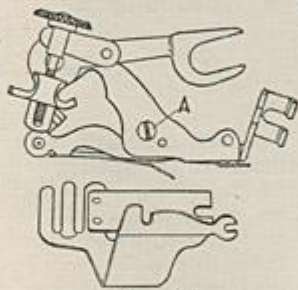
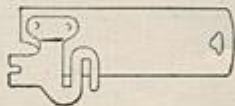

Figure 12.
Figure 13.
Remove the front shuttle slide and insert the special shuttle slide with shirring plate attached (Figure 13). Before attaching the ruffler to the presser bar, loosen the screw (A), Figure 12, back of the ruffler, take off the separating blade, as shown in Figure 12, then attach the ruffler to the presser bar.